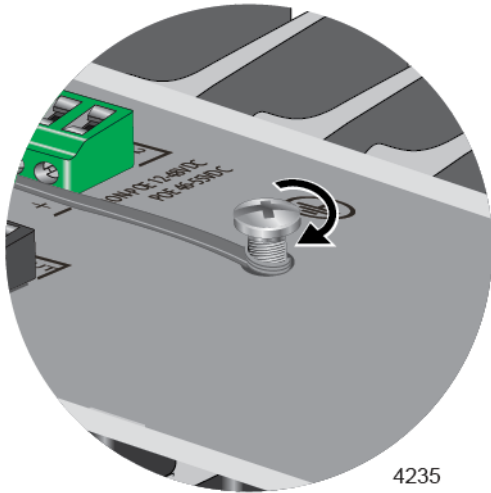

Figure 32. Wrapping the Grounding Wire Around the Grounding Screw
- 3. Wrap the grounding wire clockwise around the base of the grounding screw. Refer to Figure 32.